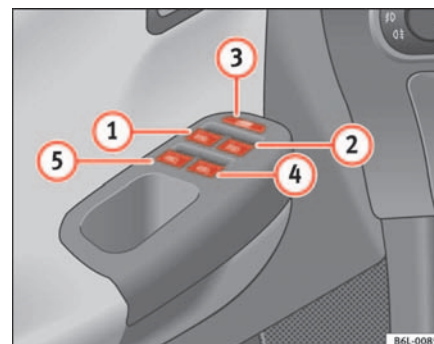

Fig. 52 Section of the driver door: controls for the front and rear windows
The buttons ⇒ page 83, fig. 52 ① and ② have two levels for opening the window and two for closing it. This makes it easier to open or close windows to the desired position.